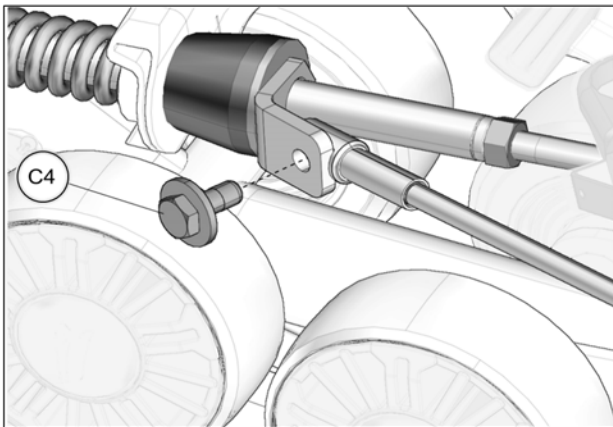

Fig. 22
14. Reverse steering wheel a little to be able to bolt support plate and cable together. Tighten provided bolt (C4) to 35 N•m [24 lb•ft]. See Fig. 22. Repeat steps on right side.